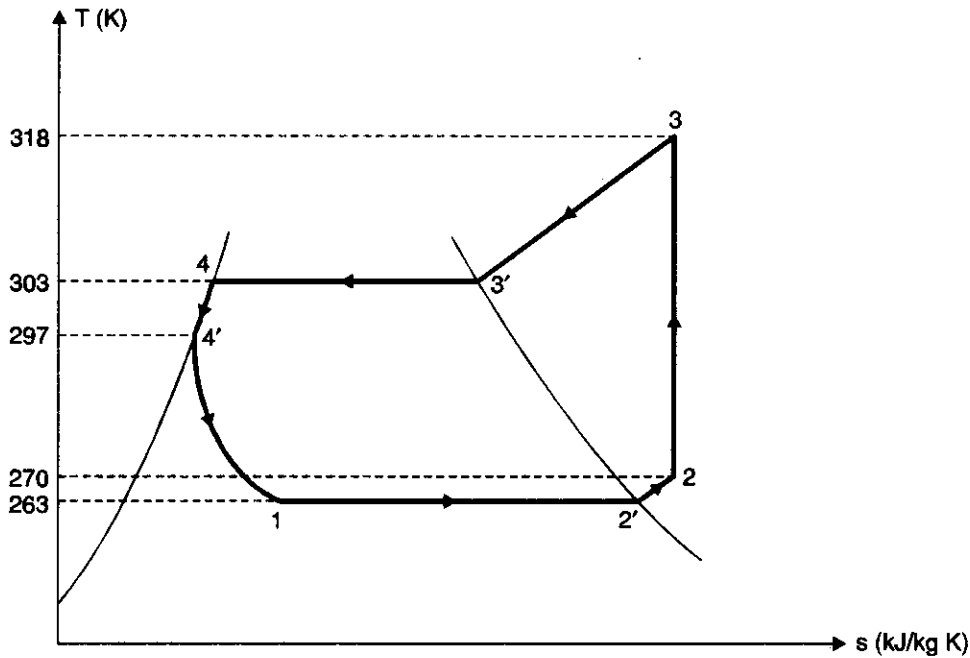

Fig. 14.35
**Solution.** The cycle of refrigeration is represented on *T-s* diagram on Fig. 14.35.